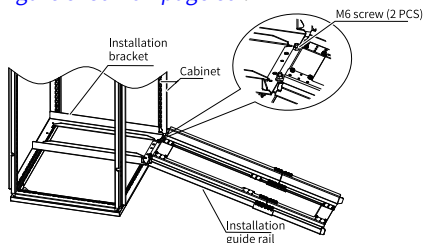

Figure 5-39 Mounting the guide rails to the cabinet
- b. Align the two round holes at the front end of the mounting rail with the screws of the mounting bracket, and then lock the guide rail to the cabinet with two M6 nuts, as shown in "Figure 5-39 " on page 89 .